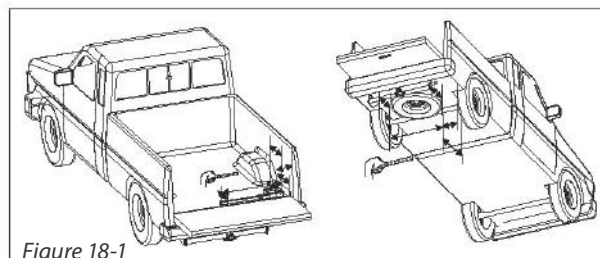
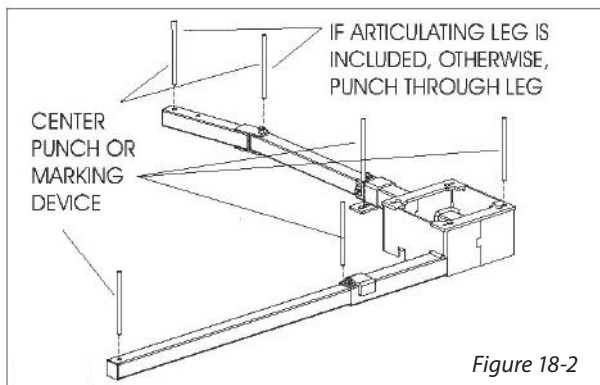
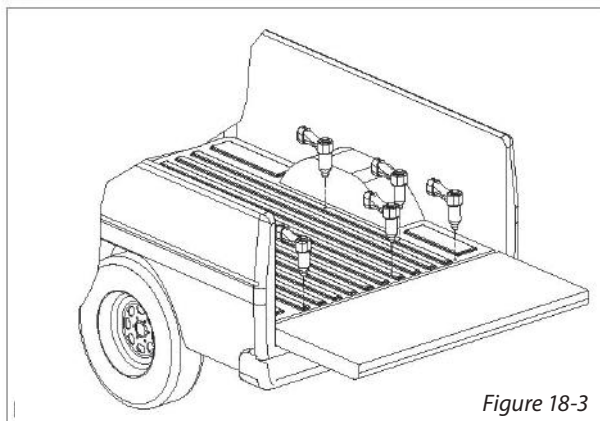

Figure 18-1
Figure 18-2
Figure 18-3
4. **Double-check and recheck potential hole positions** again before drilling pilot holes. [Figure 18-1] With a center punch or marking device, mark the locations to be drilled. Remove the Base, Legs, and Anchors. Check that the marked locations are in the desired locations. Drill the pilot holes through the marked locations using the 1/8" drill bit. [Fig. 18.2] Be sure to drill straight down, otherwise, fasteners will not fit properly. [Figure 18-3]
5. **Finish drilling** by making 3/8" holes through the truck bed and when possible, through the frame of the truck in the locations shown. [Figure 18-3]